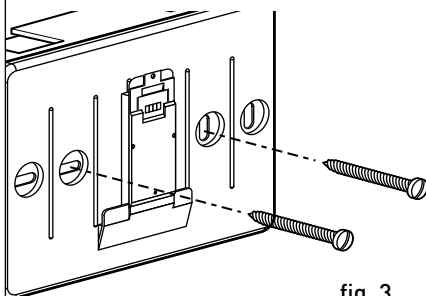

fig. 3
- fix the base of the device to the box on the wall using the screws supplied in the kit (fig. 3);